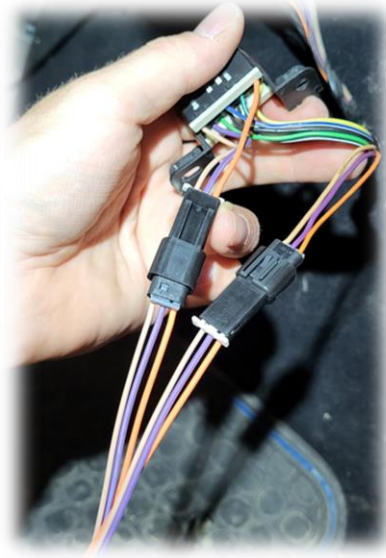

Figure 35
32. Connect OBD2 IN to OBD2 in connector, and connect OBD2 out to OBD2 out connector. See figure 35.